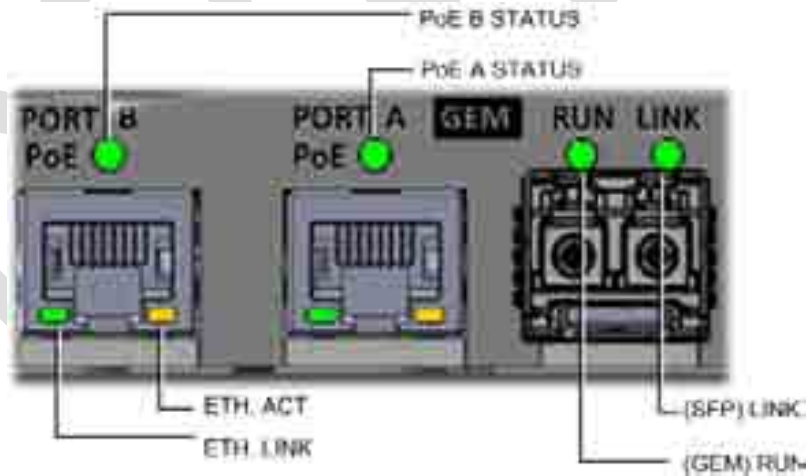

Figure 5-84. GEM Status LEDs
- D. Verify normal operation according to Figure 5-84 and Table 5-9.